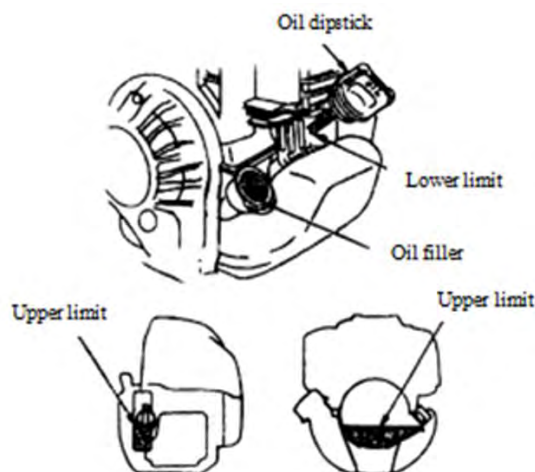

Figure 2: Engine Oil Check Procedure
2. Check engine oil before each use - Place the engine horizontally, screw off the oil fill cap, check the oil level as shown in Figure 2, if the oil is low, add oil to reach the upper limit.